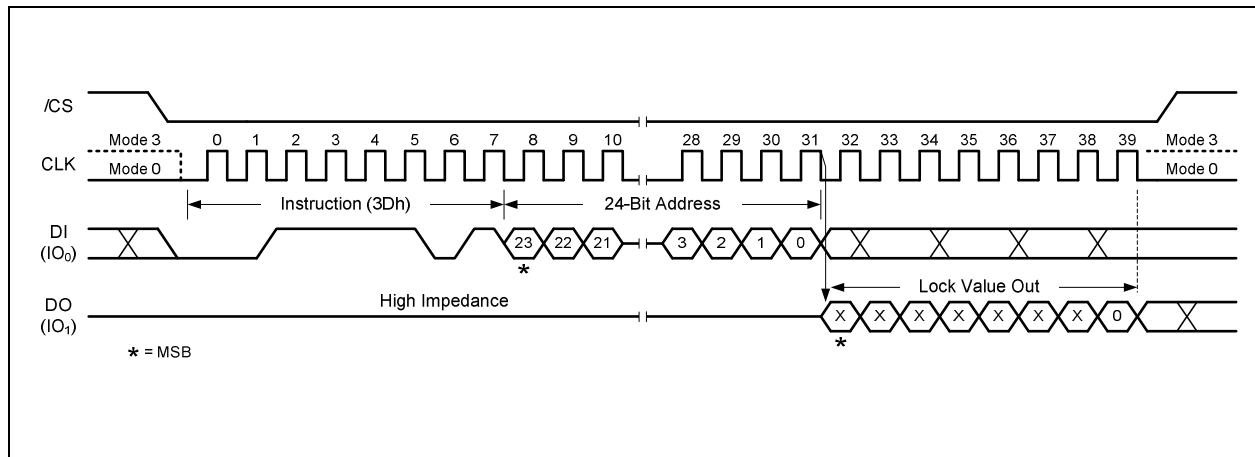

Figure 50. Read Block Lock Instruction
To read out the lock bit value of a specific block or sector as illustrated in Figure 4d, a Read Block/Sector Lock command must be issued by driving /CS low, shifting the instruction code “3Dh” into the Data Input (DI) pin on the rising edge of CLK, followed by a 24/32-bit address. The Block/Sector Lock bit value will be shifted out on the DO pin at the falling edge of CLK with most significant bit (MSB) first as shown in Figure 50. If the least significant bit (LSB) is 1, the corresponding block/sector is locked; if LSB=0, the corresponding block/sector is unlocked, Erase/Program operation can be performed.